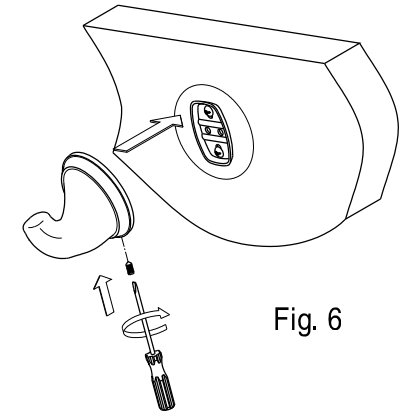

Fig. 6
Step 6. Place the unit, with the small hole in the base underneath, over the mounting plate by tightening the slotted set screw with a flat head screwdriver until the base is tightly fixed (fig. 6).